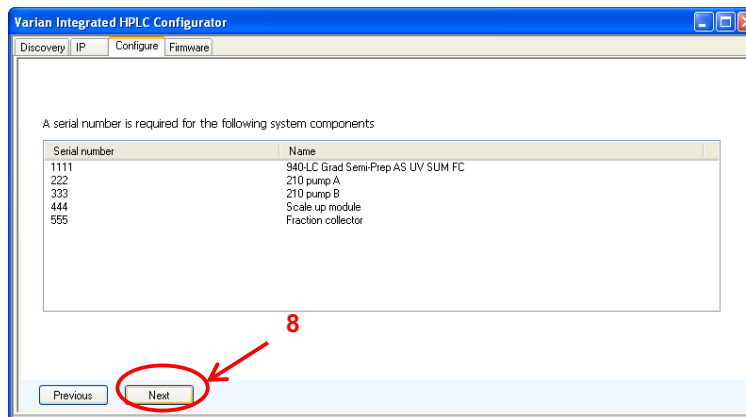

Figure 24: Serial Number page.
5. Click *next* (7) after selecting the Manual injector – Prep, and the following window appears (Figure 24). The serial numbers should already be shown. Click *Next* (8).